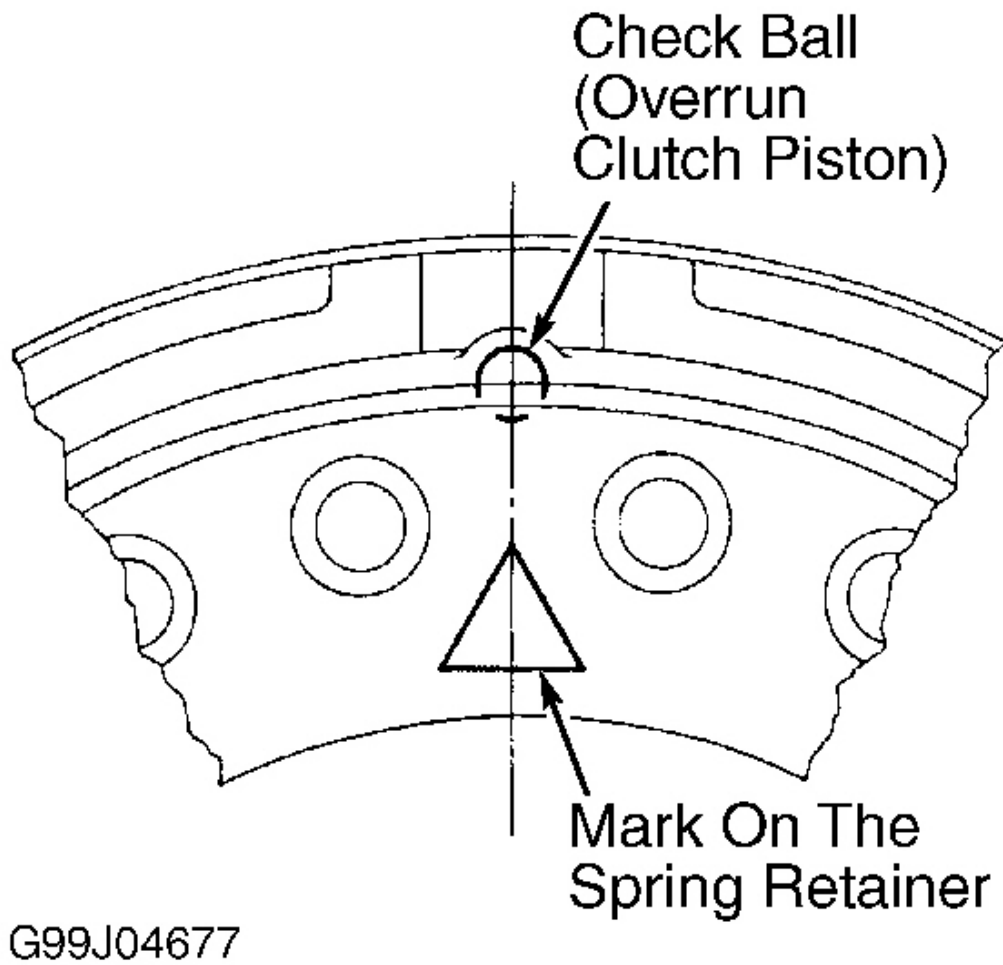

Fig. 35: Checking Spring Retainer Installation
1. Lubricate "D" rings and oil seals with ATF, and install on forward and overrun clutch pistons. Ensure "D" rings and oil seals are installed in correct direction. See **Fig. 34**. Align triangle mark on spring retainer with check ball in overrun clutch piston. See **Fig. 35**. Do not align snap ring gap with spring retainer stopper.